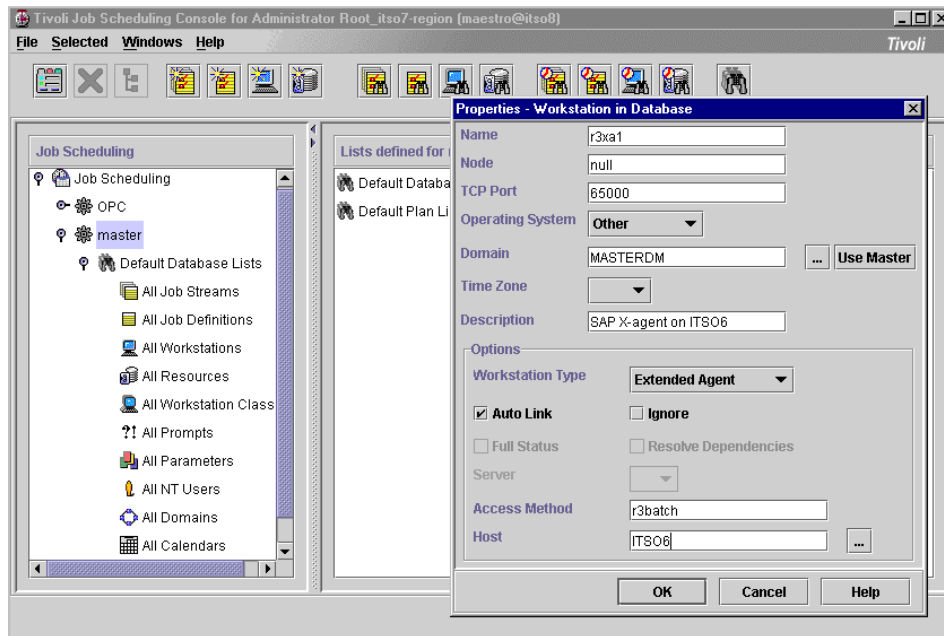

Figure 98. Fill in the necessary fields in the Properties window
3. Fill in the necessary fields for creating a new SAP R/3 Extended Agent workstation as shown in Figure 98 on page 176.